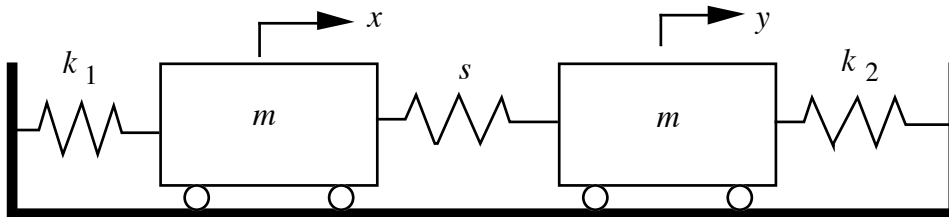

Fig. 1
1. Two harmonic oscillators are weakly coupled together through a spring of stiffness  $s$ , as shown in Fig. 1. Both oscillators have mass  $m$ , and their springs have respective stiffnesses  $k_1$  and  $k_2$ , with  $k_1 \gg s, k_2 \gg s$ . The displacements of the two masses are  $x$  and  $y$ . Find the mass and stiffness matrices for this system, and show that the natural frequencies are determined by the equation